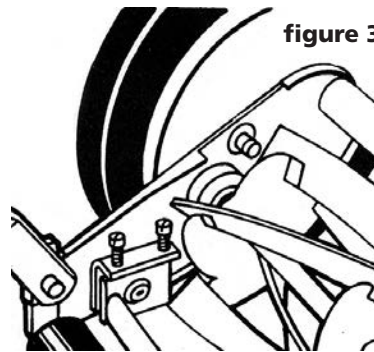

figure 3
**DO NOT** attempt to attach the handle to the bolts on the roller assembly at the rear of the mower. This is incorrect! (refer to figure 3).